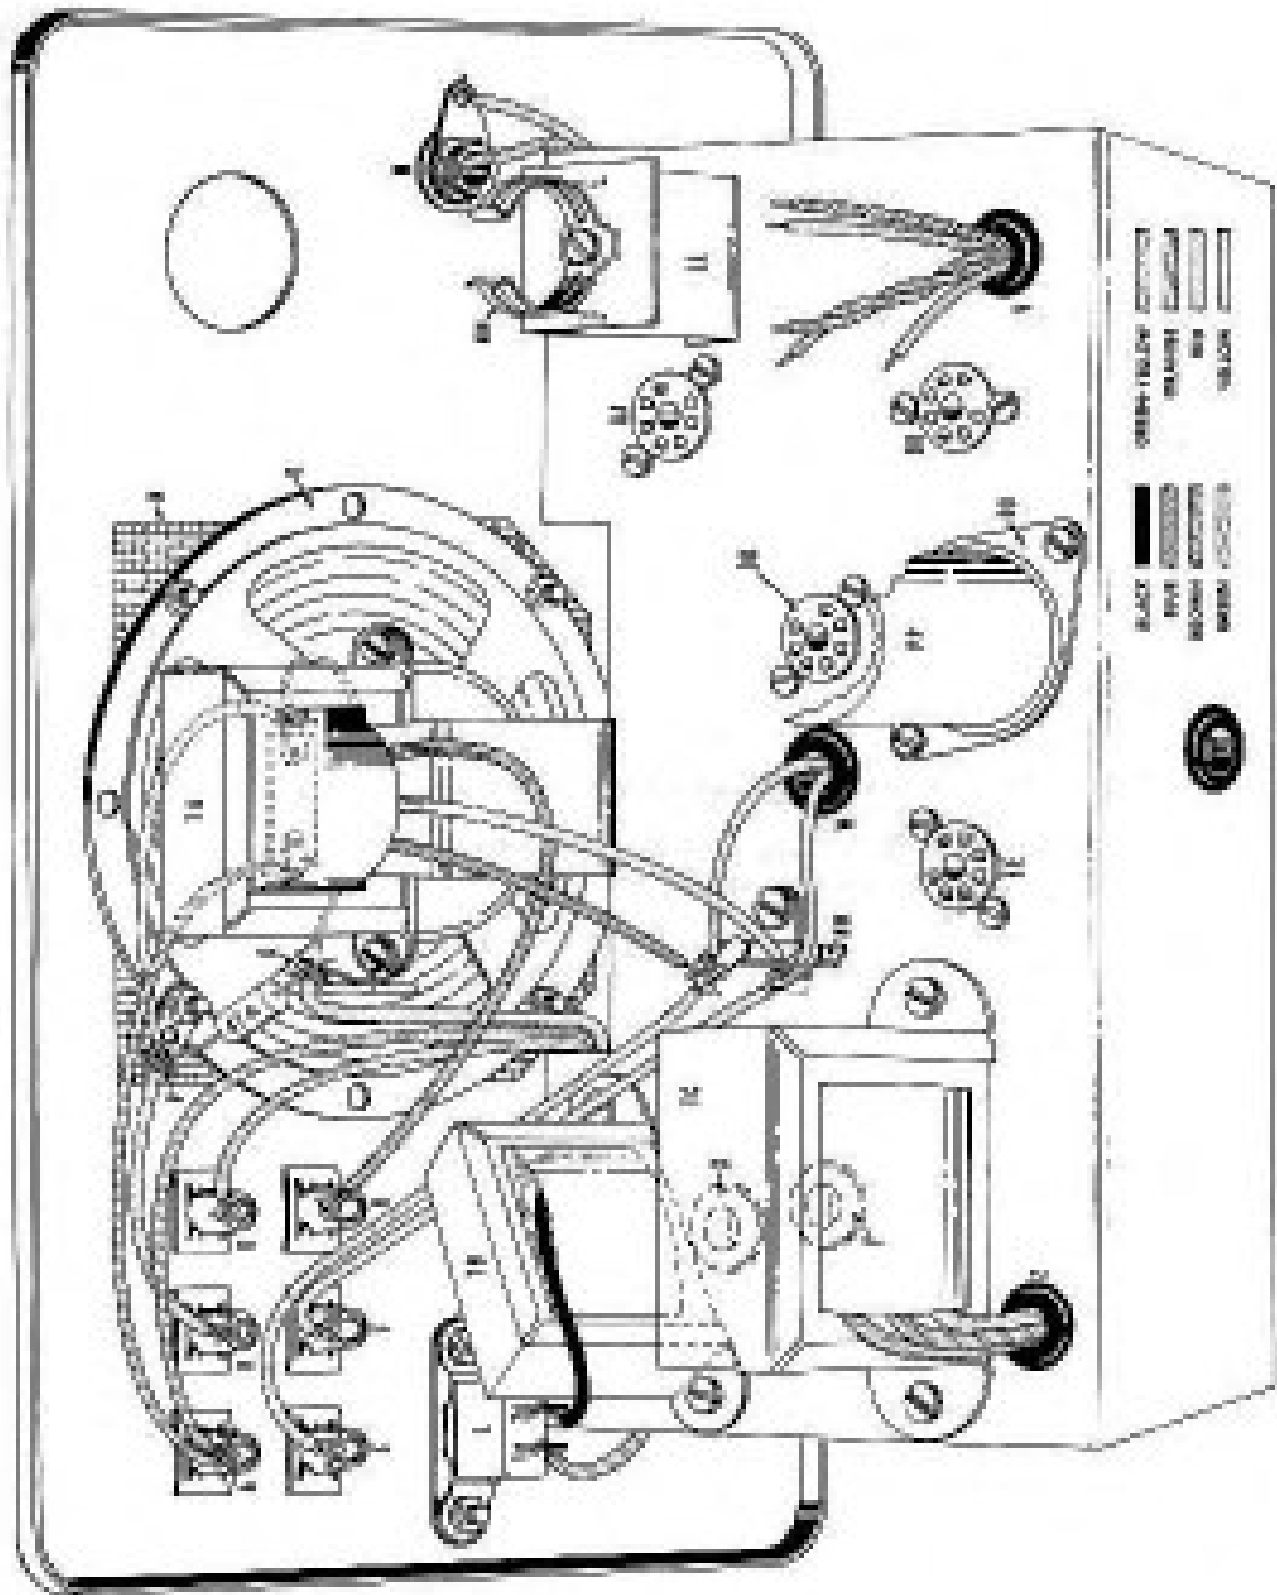

FIGURE 9
REFER TO FIGURE 9
- () 79. Connect the loose end of the red hook-up wire extending through speaker cut-out from SH7 to Q1 (Don't Solder). Dress red wire as shown in Figure 9.
- () 80. Connect the loose end of the green hook-up wire extending through speaker cut-out from SH8, to pin jack D (Solder). Dress green wire as shown in Figure 9.
- () 81. Connect the loose end of the orange hook-up wire extending through speaker cut-out from SH6, to pin jack A (Don't Solder). Dress orange wire as shown in Figure 9.
- () 82. Connect a 6-1/2" length of orange hook-up wire from pin jack A (Solder), to Q1 (Solder). Dress orange wire as shown in Figure 9.
- () 83. Connect a 6-1/2" length of yellow hook-up wire from pin jack E (Solder), to HH2 (Don't Solder). Dress yellow wire as shown in Figure 9.
- () 84. Connect a 6-1/2" length of red hook-up wire from pin jack F (Solder), to HH1 (Don't Solder). Dress red wire as shown in Figure 9.
- () 85. Connect the loose end of the yellow hook-up wire extending through grommet W from DD3, to HH2 (Don't Solder). Dress yellow wire as shown in Figure 9.
- () 86. Connect the loose end of the red hook-up wire extending through grommet W from DD3, to HH1 (Don't Solder). Dress red wire as shown in Figure 9.